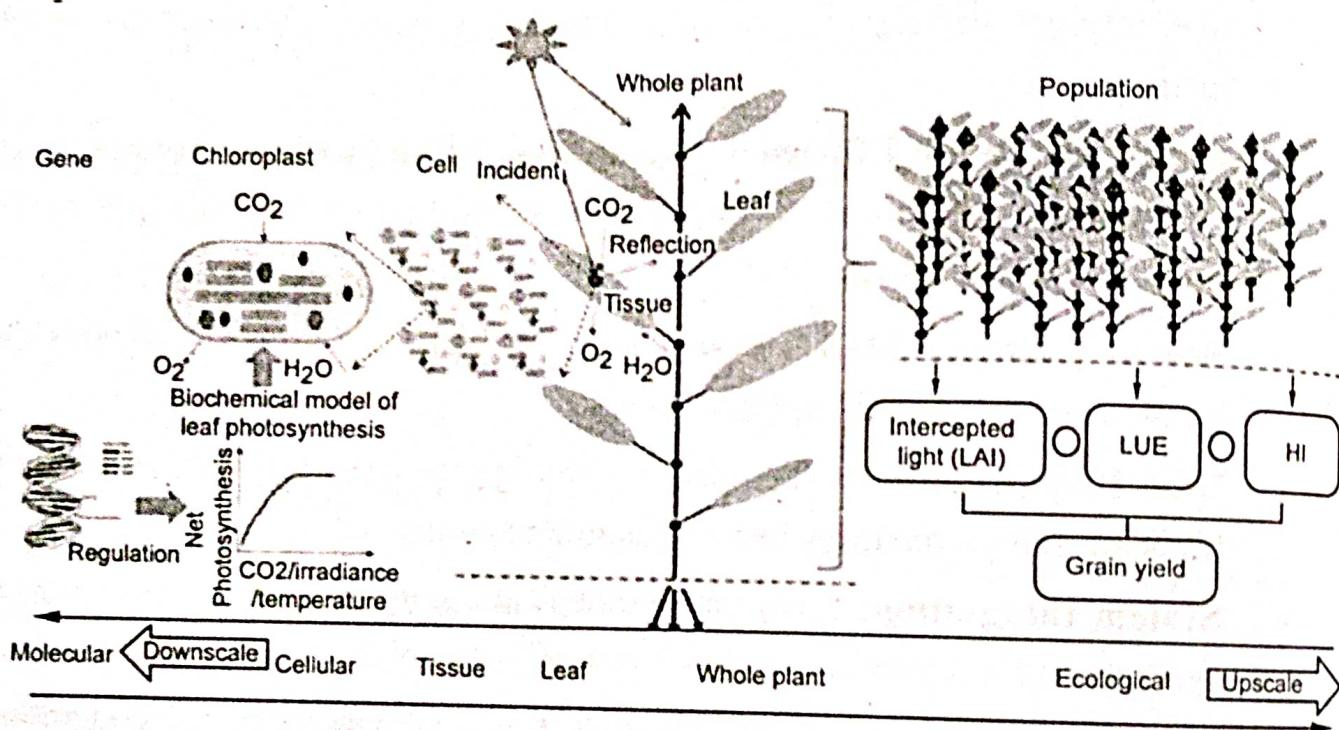

Fig. 2.4. Plant architecture
- ❖ Plant architecture plays a crucial role in maximizing light absorption, optimizing resource allocation, and ensuring reproductive success..Figure 2.4 shows the plant architecture and functional activities of biochemical models